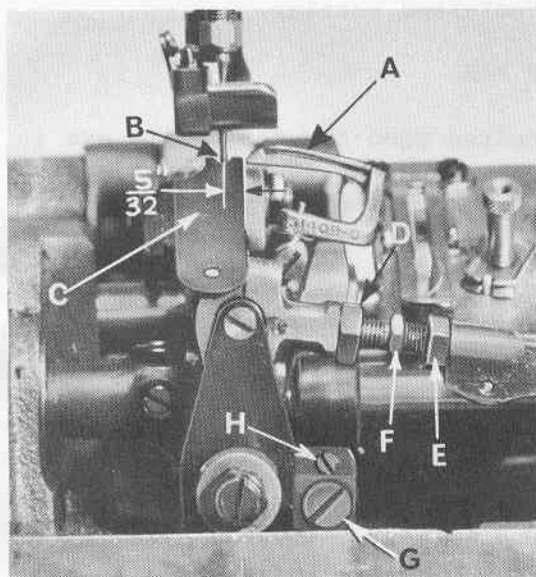

Fig. 6
Insert a new needle, type and size as specified. If the looper gauge is $\frac{5}{32}$ inch (3.97 mm), for example, set the looper (A, Fig. 6) so the distance from the center of the needle (B) to the point of the looper is $\frac{5}{32}$ inch (3.97 mm), when the looper is at its farthest position to the right. Looper gauge No. 21225- $\frac{5}{32}$ (C) can be used advantageously in making this adjustment. On two needle machines set the back looper to the right needle and on three needle machines set the middle looper to the middle needle, when setting the looper gauge. Refer to chart for needle Type, looper gauge setting and looper gauge number. If adjustment is required, loosen nut (D) (it has a left hand thread) and nut (E) on connecting rod (F), turn the connecting rod forward or backward to obtain the $\frac{5}{32}$ inch (3.97 mm) dimension. Retighten both nuts, first nut (E), then nut
If adjustment is necessary, loosen lock screw (G, Fig. 6) and turn stop screw (H) as required. Turning stop screw clockwise sets the looper to the rear and turning it counterclockwise acts the reverse. Holding looper to the front while making this adjustment may prove helpful. Tighten lock screw when setting is obtained and recheck the adjustment.